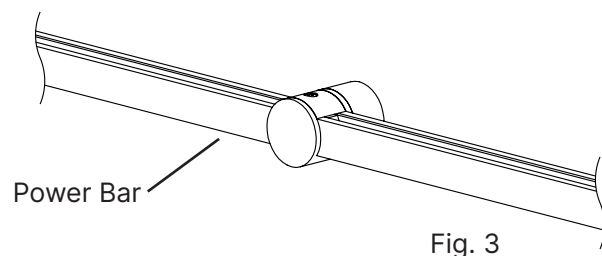

Fig. 3
3. Insert **Power Bar** into **Support**. Reattach **Support Cap** with **Flat Head Screw** (Fig. 3). **Note:** Wall Mount Support (1XB02WL00x) is to be used in conjunction with Wall Mount Standard Power Feed (1XA08WL01x) or Remote (1XA08WL02x).
3. Insert **Power Bar** into **Support**. Reattach **Support Cap** with **Flat Head Screw** (Fig. 3). **Note:** Ceiling Flush Mount Support (1XB02CE00x) is to be used in conjunction with Ceiling Mount Standard Power Feed (1XA08CE01x).